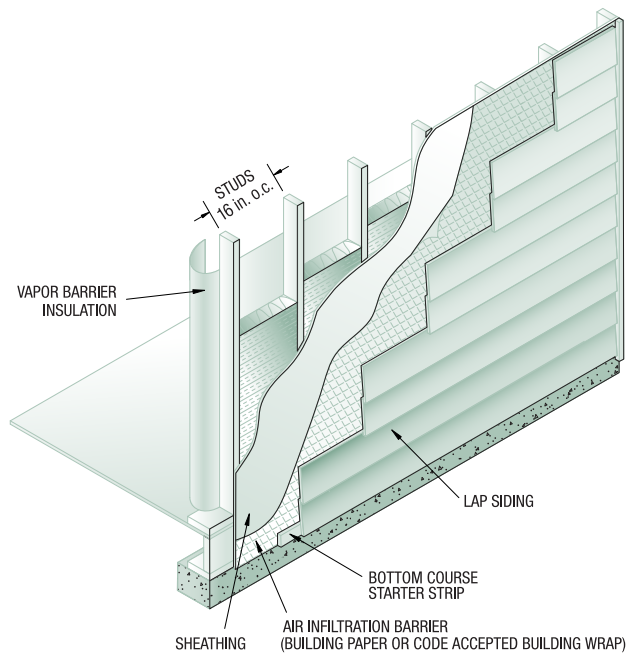

FIG. 7
- Stagger butt joints across wall (*See Fig 7*) making sure joints are on studs for required nailing. Gap joints 3/16 in. and use joint covers.